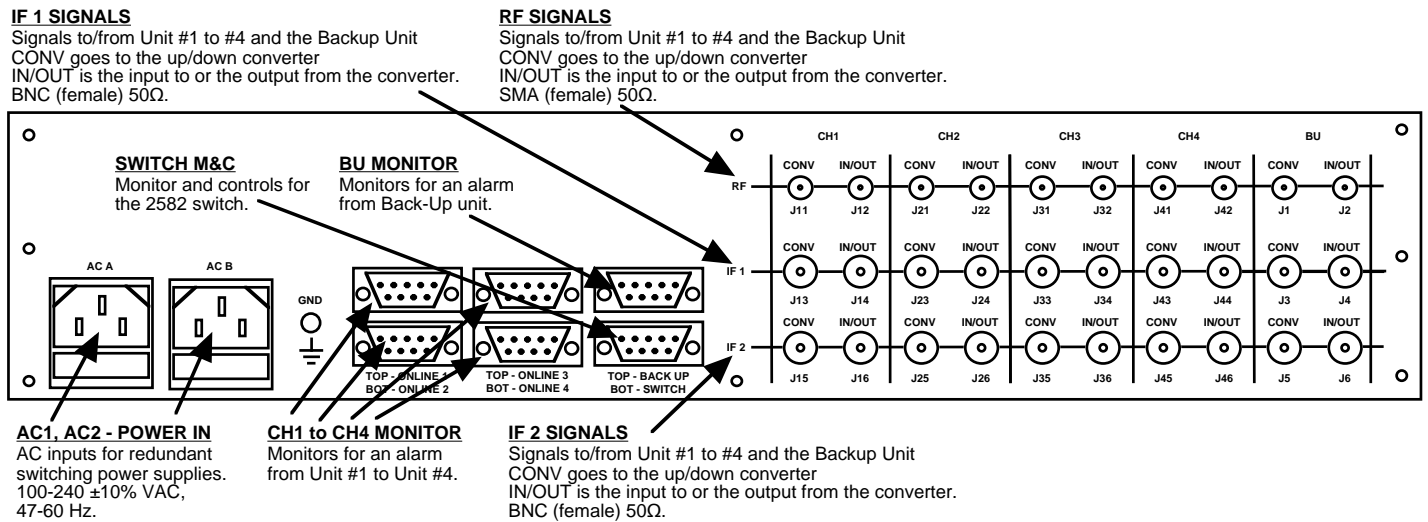

FIGURE 2.1 2582-344 Rear Panel I/O's
Figure 2.1 shows the input and output connectors on the rear panel.
1. Connect Converters (CH1, CH2, CH3, CH4, BU) to respective channels on the 2582 (Figure 2.1).
2. Connect Alarm/Control cables from Converters to respective monitors on the 2582 (Figure 2.1).
3. Connect two 100-240 \pm 10% VAC, 47 - 63 Hz power cords to AC A and AC B on the back panel (Figure 2.1).